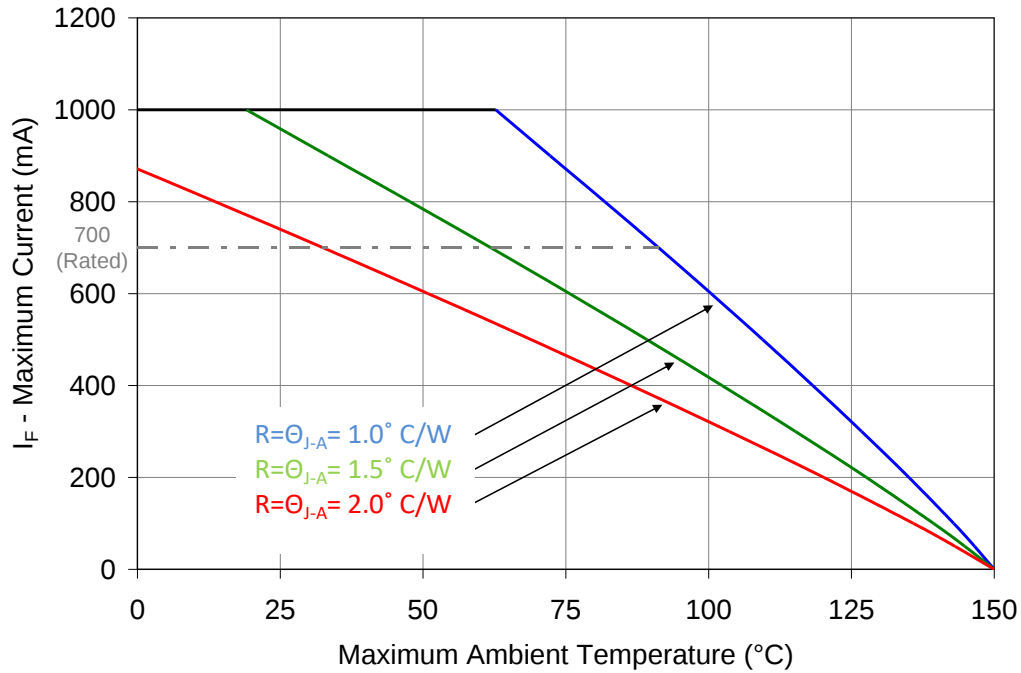

Figure 10: Maximum forward current vs. ambient temperature based on $T_{J(\text{MAX})} = 150^\circ \text{C}$.
- Maximum DC forward current (per die) is determined by the overall thermal resistance and ambient temperature. Follow the curves in Figure 10 for current de-rating.